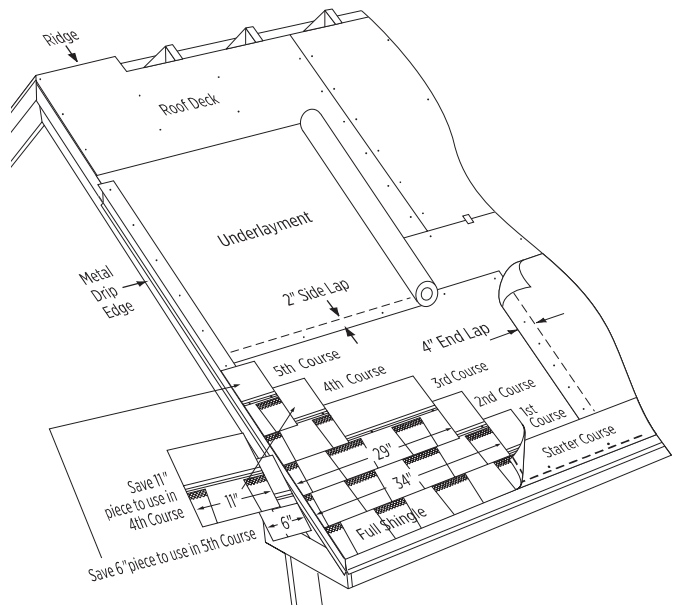

Figure 12-6: Applying the first 5 courses of Landmark TL.
1. Use CertainTeed Swiftstart® Starter, or three-tab self-sealing shingles with the lower tab portions removed. Be sure that the starter shingles are at least 7-5/8” in height. (Figure 12-6).
1ST COURSE: Apply a full shingle at the lower left corner of the roof. Make the lower edge and left edge lie flush with the edges of the starter course (Figure 12-6).